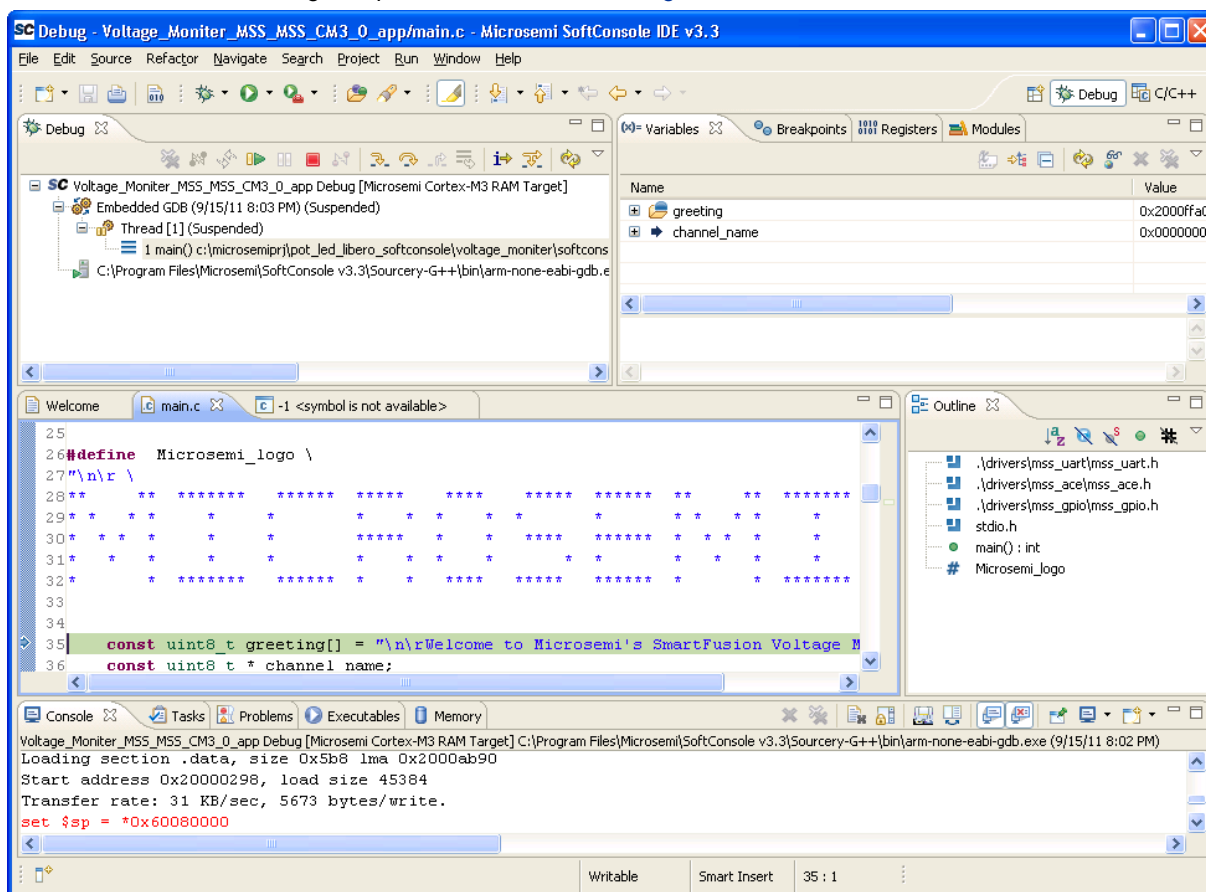

Figure 41 - Debug Perspective
7. Your Debug Perspective should resemble Figure 41 :